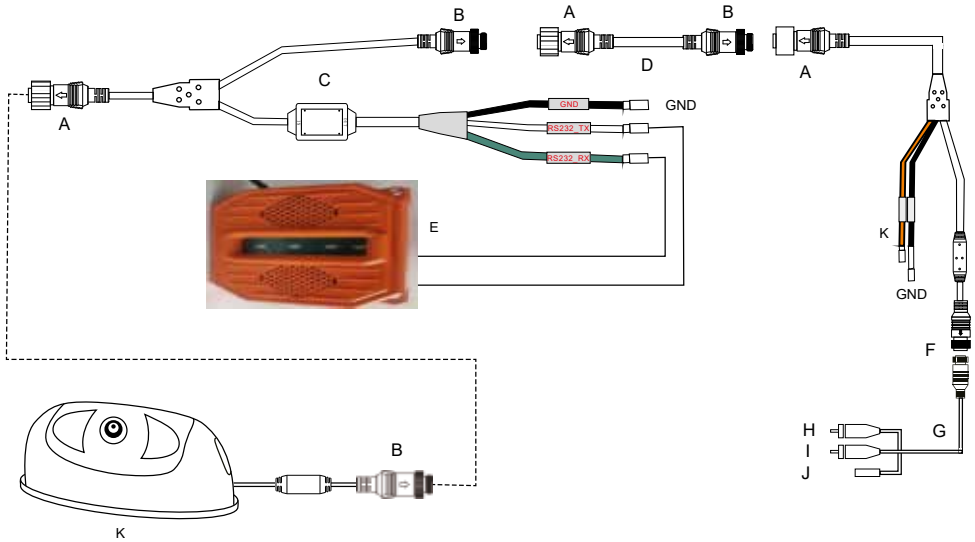

Abb. 2: Connection of the outdoor siren with strobe light
- **Adapter 3:** RS232 for connecting the outdoor siren with strobe light (fig.2)